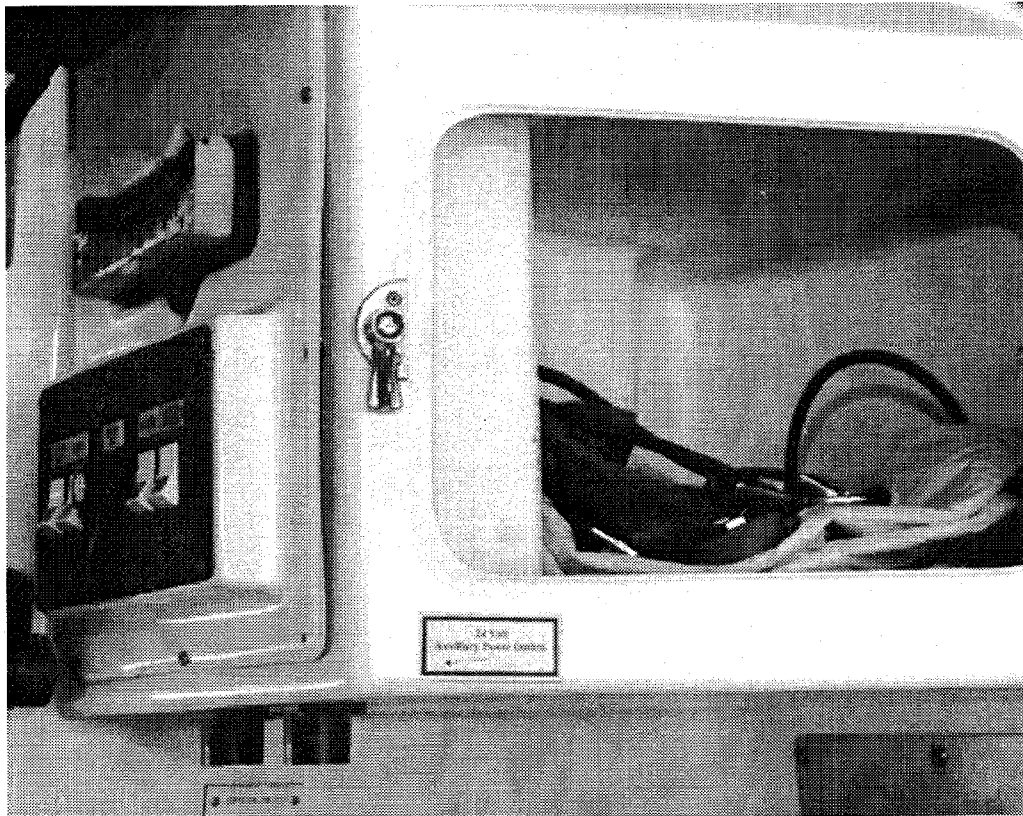

Figure 2 - Completed Main Switch Panel
- t. Using 5-minute Araldite, position label "24v" as per Fig 2.